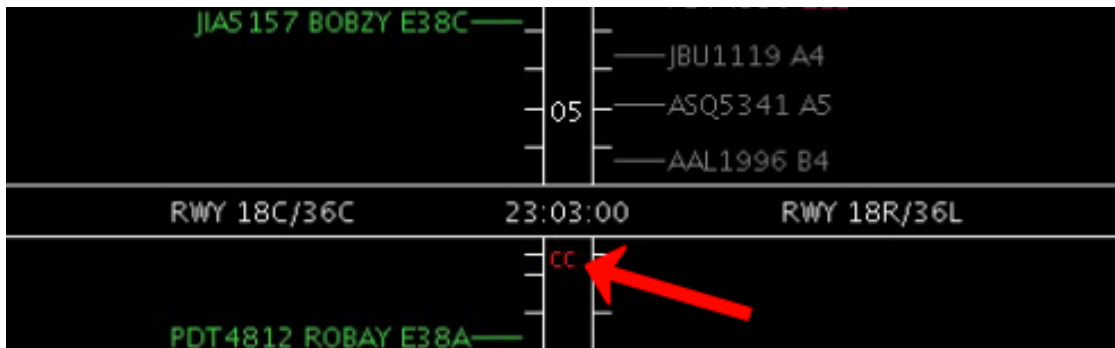

**Figure 100. Choose a Runway Utilization.**
**Step 4:** Choose a runway utilization option from the “Runway Utilization:” drop-down menu (Figure 100).